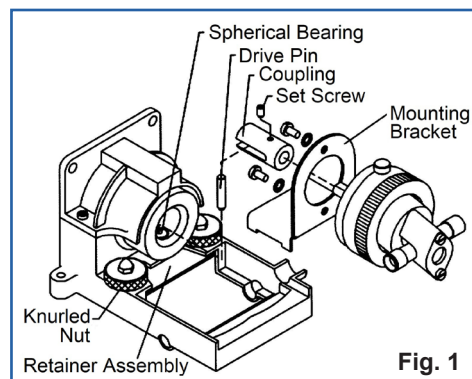

Fig. 1
**6. ADAPTING RH PUMP HEADS TO STANDARD Q PUMP DRIVE MODULES.** (refer to Fig. 1) The RH/Q Kit adapts the RH pump heads to standard Q Pump Drive Modules. Assemble as follows:
a) Assemble Kit parts to RH pump head as shown (Fig. 1) with "shoe" of the MOUNTING BRACKET down. Slip the COUPLING fully onto the pump shaft, with its slot away from the pump head and the SET SCREW contacting the flat on the pump shaft.